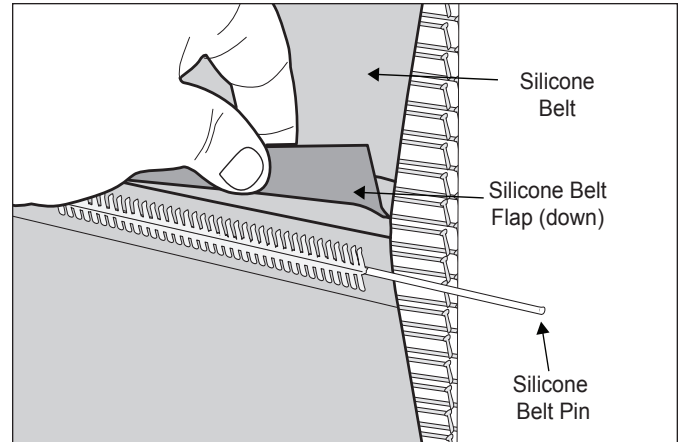

Figure 9. Removing Silicone Belt
3. Remove the front and rear Conveyor Covers and pull the Silicone Belt Pins out of the zipper on the Silicone Belts (Figure 9).
6. Install new Silicone Belts around the Conveyor Belt Chains between the yellow Upper and Lower Support Rods. The zipper flap should be exposed and hanging down (Figure 9).
2. Remove both Conveyor Covers and pull the Silicone Belt Pin out of the zipper (Figure 9).
3. Remove the Conveyor Cover(s) and pull the Silicone Belt Pin out of the zipper (Figure 9).